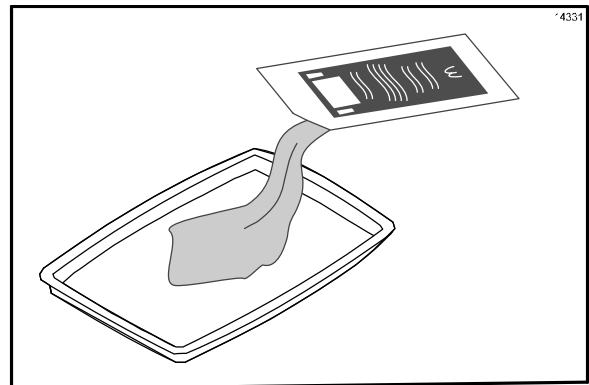

Figure 78
- Open one packet of **McD Hi-Temp Grill Cleaner (HTGC)**. Empty the contents into an entrée base or stainless steel pan. (See Figure 78.)